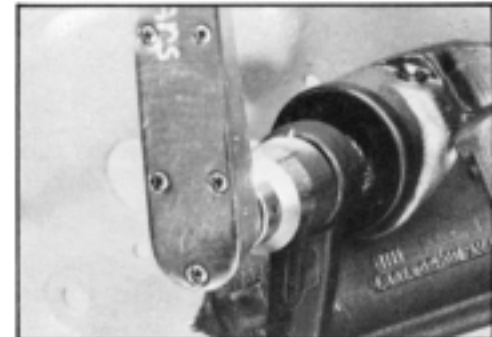

Figure 17
- 1.12 If required assemble the sector shaft nut (65) and lockwasher (64) and torque nut to 300-315 ft. lbs. (407-427 N m). 1-13/16" socket required. SEE FIGURE 17.